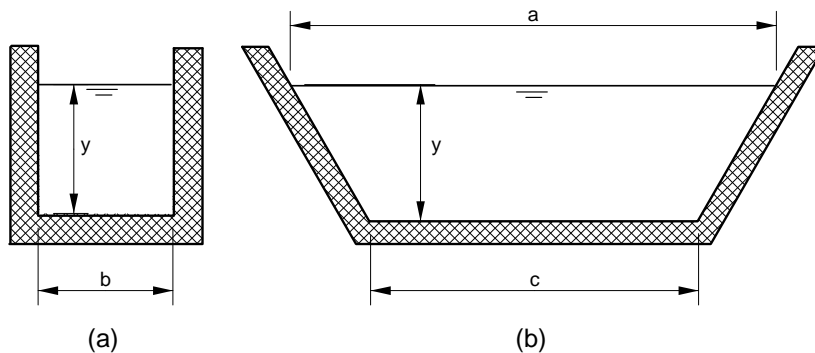

Figure 4: Varying shapes of open channels
Channels can be all sorts of cross-sectional shapes. Channels in water treatment works often have simple rectangular shapes constructed in concrete (Fig 4(a)). Notice that this rectangular shape has three sides that are concrete surfaces. The fourth side of the rectangle is the water surface. Where a
channel is constructed from natural excavated material, the shape may be a trapezium (Fig 4(b)). The difference between channel shapes is represented by a number of measurements or properties. We need to define four of these as:
- (1) You have been employed on the design of the irrigation scheme intended to provide water to a number of rural villages where clean water for drinking and for agricultural purposes is lacking. It is proposed to provide open 0.9m wide rectangular-section channels lined with concrete with the water flowing to a maximum depth of 1.2 m. It is required to have a capacity of 2.0 m³/s (the highest flow-rate it is expected to carry). If the channel is constructed using rough finished concrete ($n = 0.017$), what slope (in the direction of flow) will be needed assuming that the flow is uniform? If the fall of the land is fairly shallow and the maximum fall of the channels for economic construction is restricted to 0.3m per 100 metres is this design adequate?
- (2) Using a spreadsheet carry out an investigation into alternative designs that will meet the design specification. Investigate (a) the effect of widening or narrowing the channel and (b) the effect of providing a better standard of concrete finish.
- (3) Investigate the effect of providing a trapezoidal shape of section as in figure 4(b). The bottom width of the section is 0.9m and the side slopes are 2 vertical to 1 horizontal and again it is proposed to use rough finished concrete. All other parameters are as in (1) above.
- (4) Again, using a spreadsheet carry out an investigation into the effect of providing a trapezoidal shape of section with varying side slopes and varying roughness coefficients.